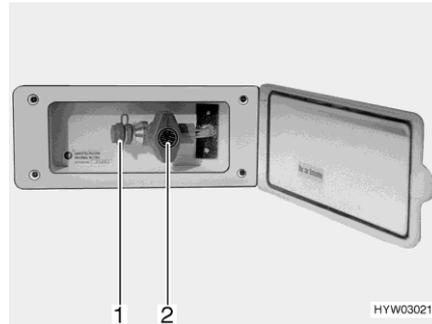

Fig. 101 External gas connection
- Connect the external gas device to the connection point (Fig. 101,1).
- Open the gas isolator tap (Fig. 101,2).